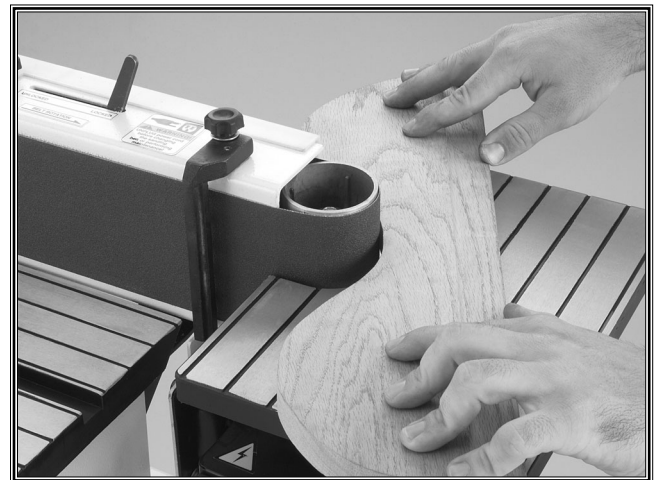

Figure 19. Contour sanding operation.
6. Hold the workpiece firmly with both hands and feed it into the curved end as shown in **Figure 19**. Move the workpiece around the end until the desired profile is achieved.